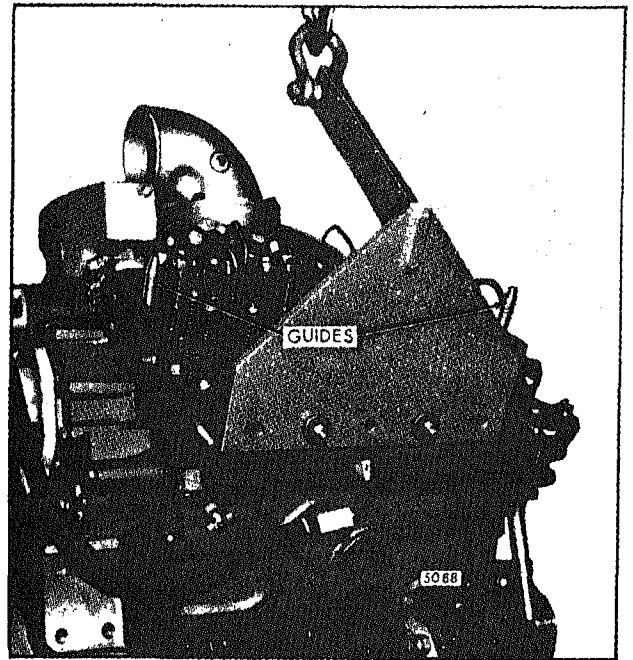

Fig. 2 - Lifting Cylinder Head Assembly Off Cylinder Block with Tool J 22062-01
11. Remove the cylinder head bolts. Then, lift the cylinder head off of the cylinder block, with lifter tool J 22062-01 (Fig. 2).